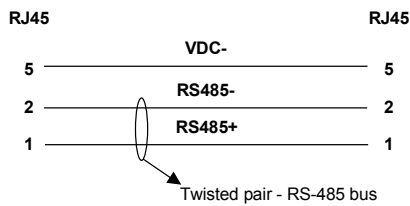
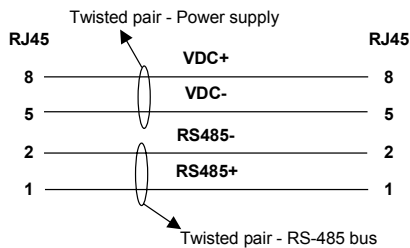

Figure 10 - Powering each STARGATE™ individually
Figure 11 - System with power propagation
- E. Custom cable (see Figure 10 and Figure 11)